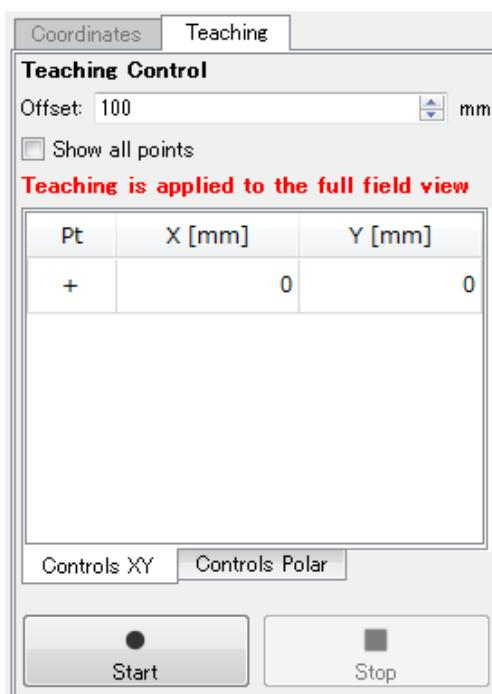

Figure 7-45 Teaching setting
- Click the “Start” button (Figure 7-45) to start recording the background data. Recording will continue until the stop button is clicked